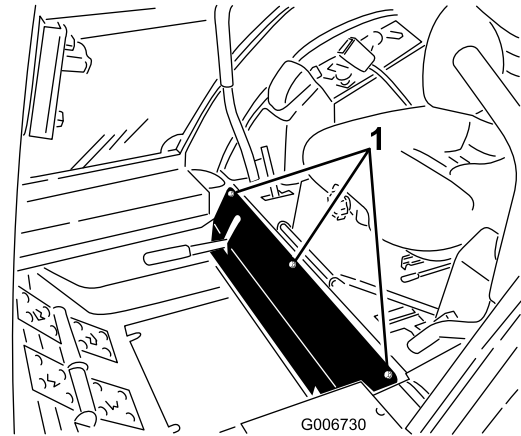

Figure 44
2. Remove the bolts securing the front panel and remove the panel (Figure 44).